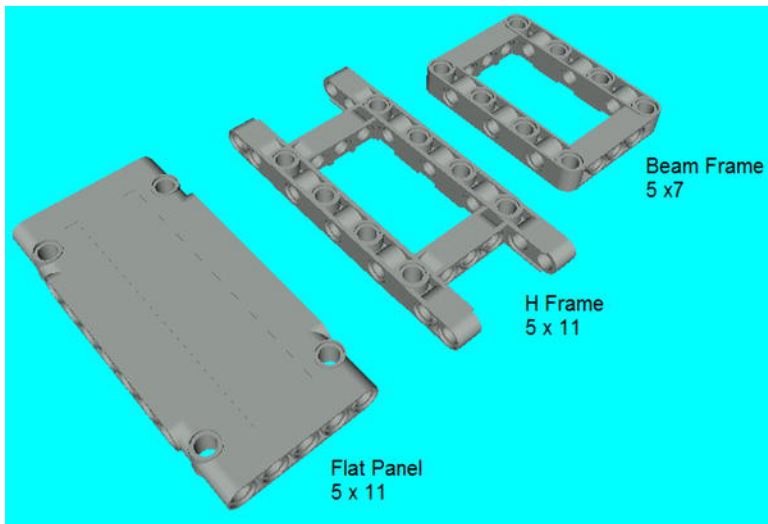

*Figure 1-11. Technic pieces used for steering*
I don't really know how to classify the steering pieces (see Figure 1-11), but they come into play in Chapter 3. You will need them if you want to build a car with some suspension.
- **Link:** A good example of a piece like this would be the track rod shown in Figure 1-11.
- **Steering:** These parts are shown in Figure 1-11.